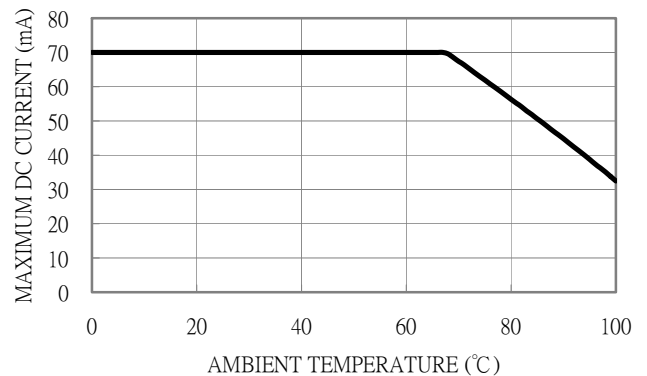

Fig.4 Forward Current vs. Ambient Temperature
3. Derating linear as shown in Fig. 4